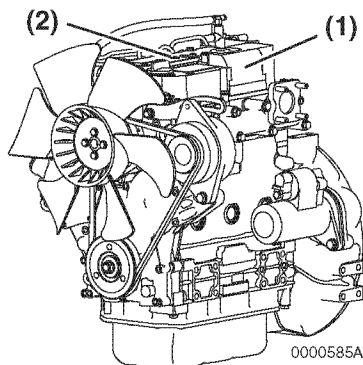

Figure 3
Figure 3 shows the location of regulatory and safety labels on Yanmar TNV series indirect injection model engines.
The typical location of the emission control information label is shown **(Figure 3, (1))**.
Typical location of the engine nameplate is shown **(Figure 3, (2))**.